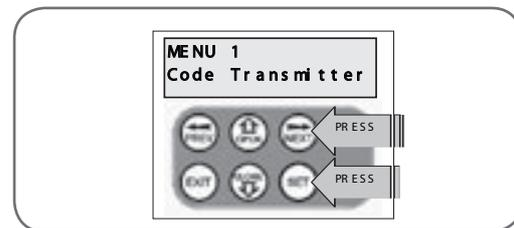

fig 46
1. Press NEXT to navigate to the Menu 1 (Fig. 46).